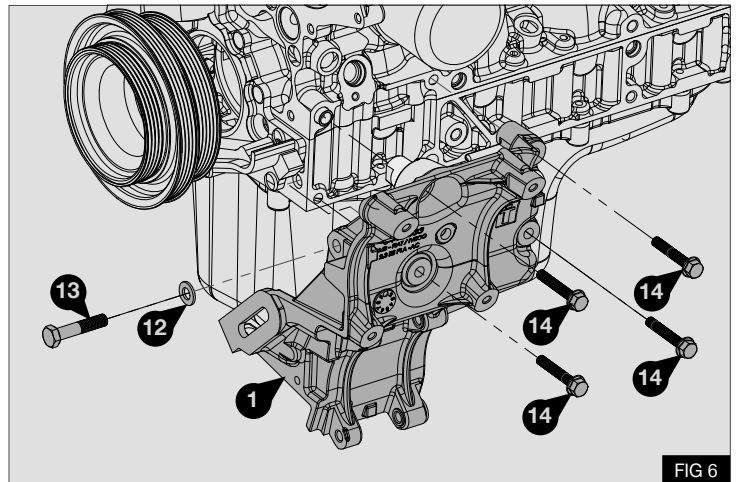
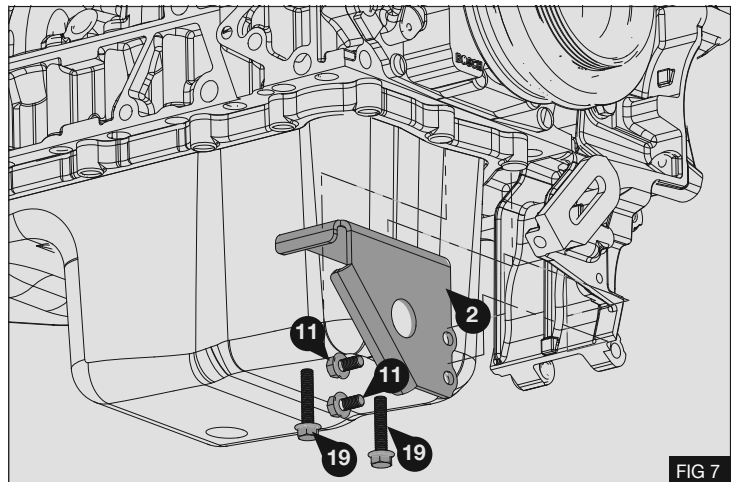

FIG 6
FIG 7
2. Locate compressor mount bracket (1) onto the dowel (10). Secure with 4 x M8 x 50 bolts (14) and M10 x 50 bolt (13) with flat washer (12) - Fig 6
- a. Torque bolt (13) to 50 Nm
- b. Torque bolts (14) to 25 Nm
4. Fit the support plate (2) using 2x M8 x 40 bolts (19) and M8 x 16 bolts (11) - Fig 7